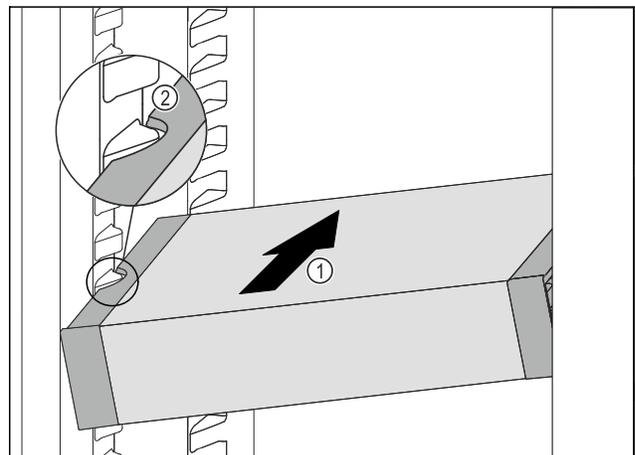

Fig. 100
- ▶ Insert the VarioSafe into the refrigerator compartment at an angle *Fig. 100 (1)* until the recesses in the side *Fig. 100 (2)* of the VarioSafe are at the level of the support rib in the refrigerator compartment.